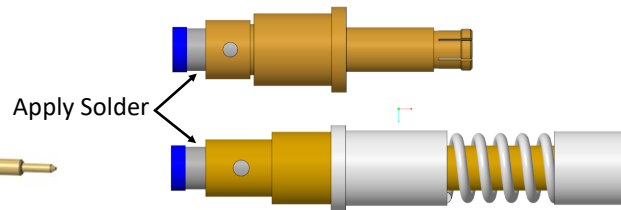

Figure 4: Finished assemblies after soldering.
- Center and secure the coaxial cable to prevent movement, and solder the outer conductor to the inside the rear shell of the contact using SN60 or SN63 solder as shown in Figure 4.